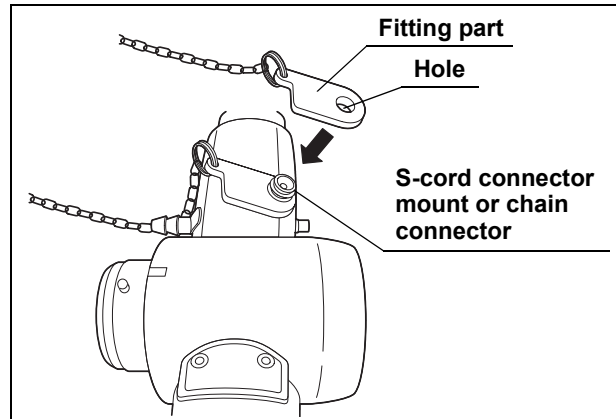

Figure 2.3
5. Place the hole on the fitting part over the endoscope's S-cord connector mount or the chain connector of the GIF-N260, GIF-XP260 (see Figure 2.3).